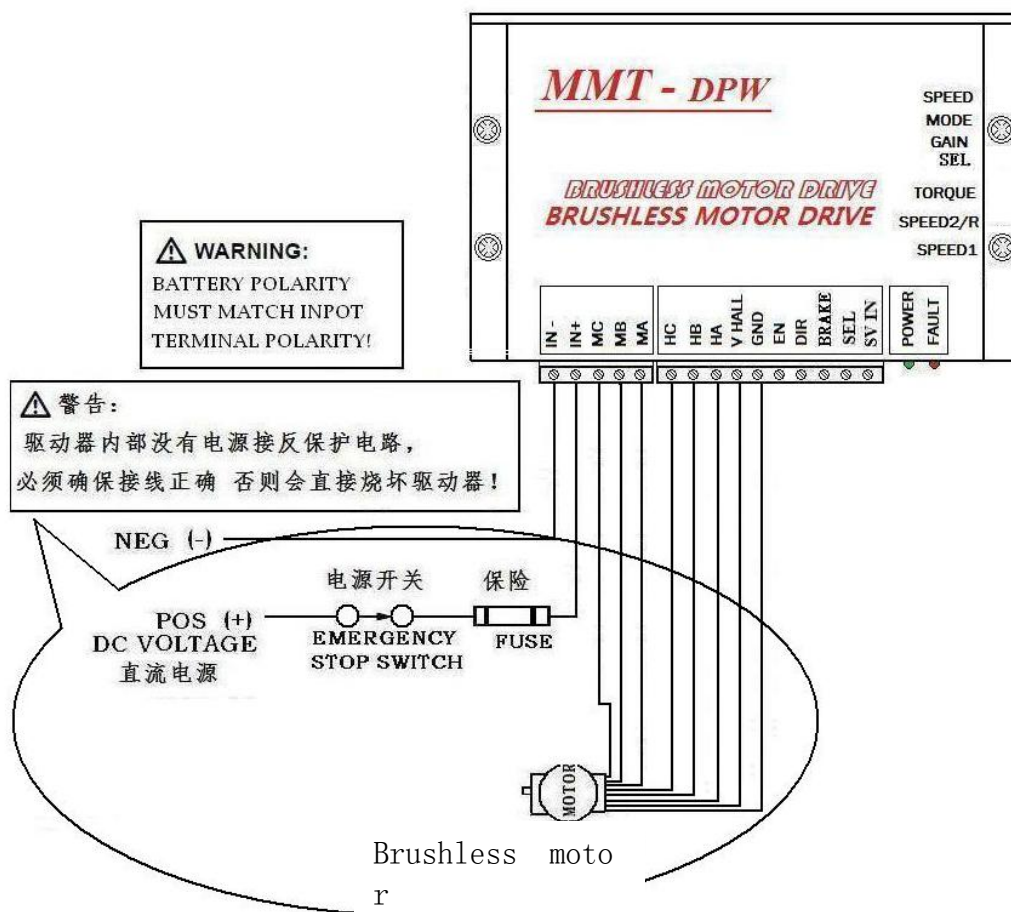

Figure 3
1. It must be equipped with a fast fuse and electromagnetic relay contactor between power input end of driver and power (storage battery) to realize emergency power off in case of suddenly power cut. See Figure 3
2. Motor connecting: see Figure 3